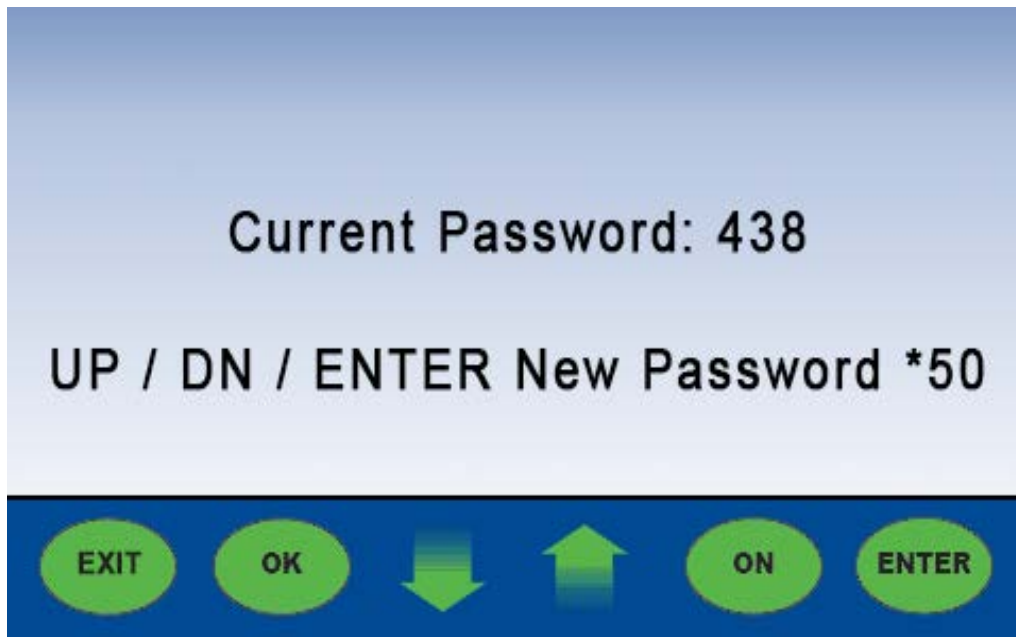

Figure 73
8. Press the **enter button**; a (*) is inputted into the field for the first digit; the second number will begin to blink (**Figure 73 on page 123**). Next, press the **up arrow** to assign the second number.